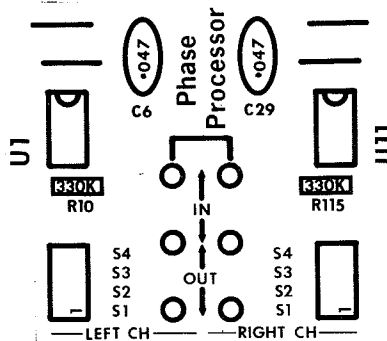

FIGURE 3-9 PHASE STRAP LOCATION
3.3.3 Phase Processing (Figure 3-9)
A two stage all pass filter, located on the input side of the AGC processing path, intentionally shifts the phase response of the system based on the frequency content. This filter, which will not affect amplitude response, will produce symmetrical waveforms for entrance to the AGC circuitry. These symmetrical waveforms will allow cleaner processing of the voices in the audio signal. This phase processing can be eliminated by removing the straps from the IN position and placing them in the OUT position. (Refer to Figure 3-9 for strap location)